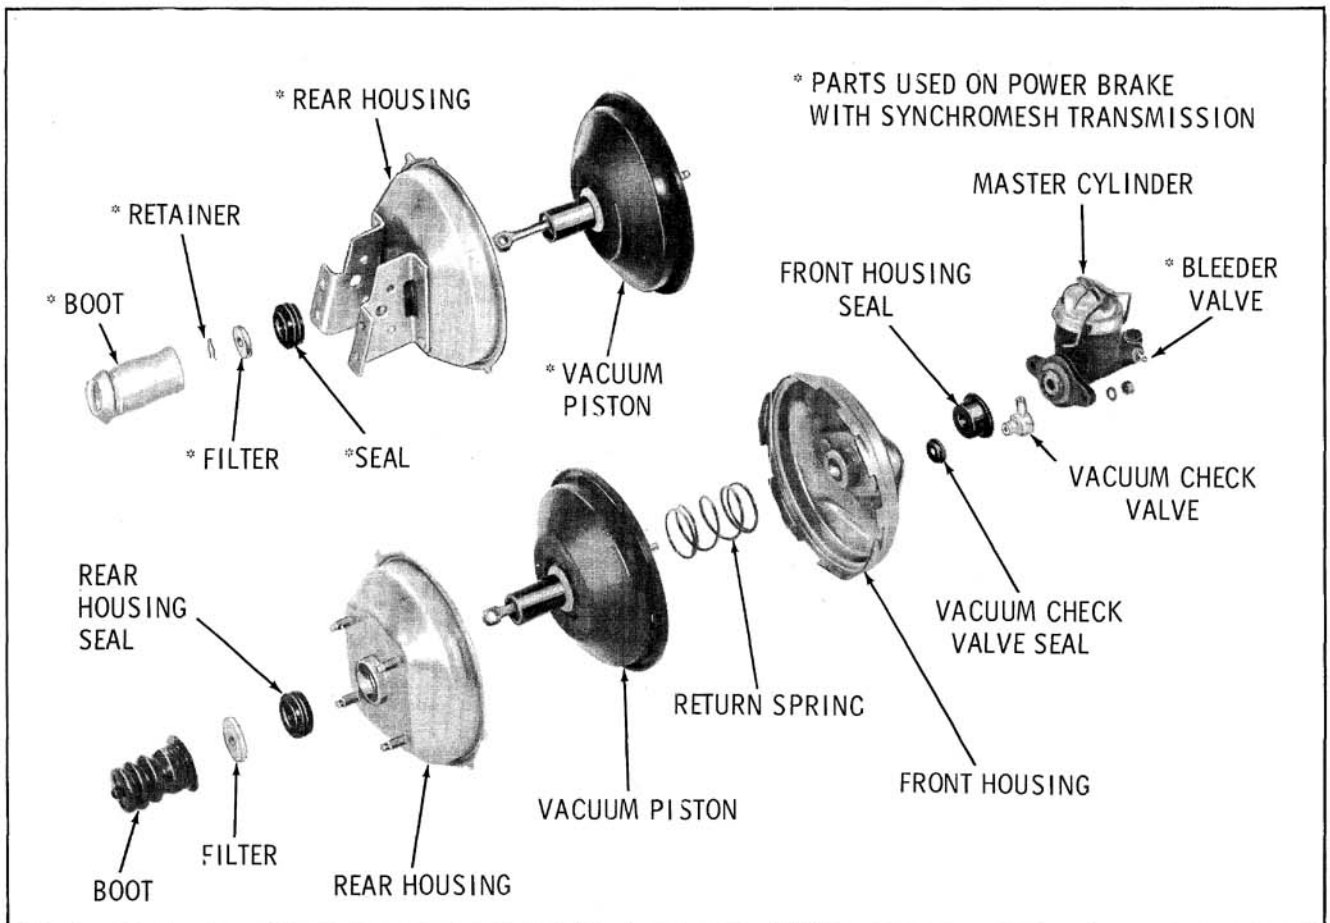

Fig. 11-29 Moraine Power Brake Assembly (52 through 86 Series)
**DISASSEMBLY OF MORaine POWER BRAKE (Fig. 11-29 or 11-30)**